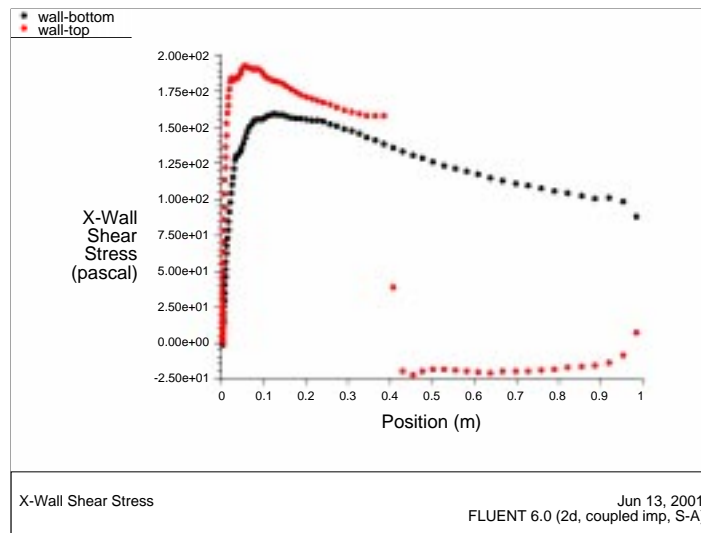

Figure 3.15: XY Plot of  $x$  Wall Shear Stress
- Plot the  $x$  component of wall shear stress on the airfoil surface (Figure 3.15).